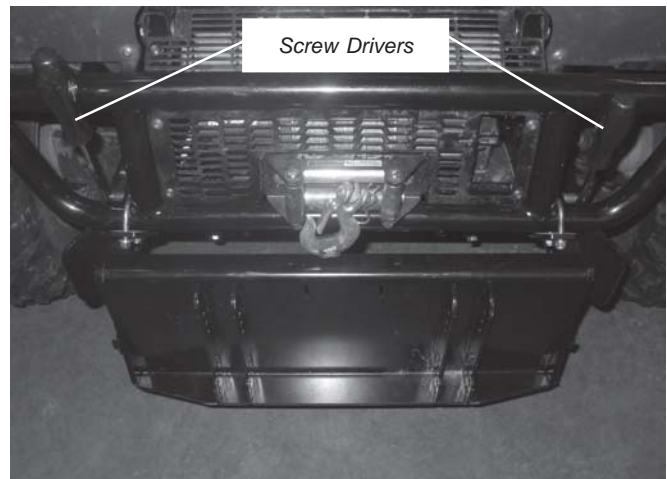

Figure 11 Positioning screwdrivers for alignment
9. With the support inserted into the mounting brackets, use two screw drivers, one on each side, to position the mounting brackets centered on the plow support flanges. See Figure 11 and 12. With the brackets centered to the support and square to the vehicle and screw drivers in place, tighten down all mounting hardware in the following order: